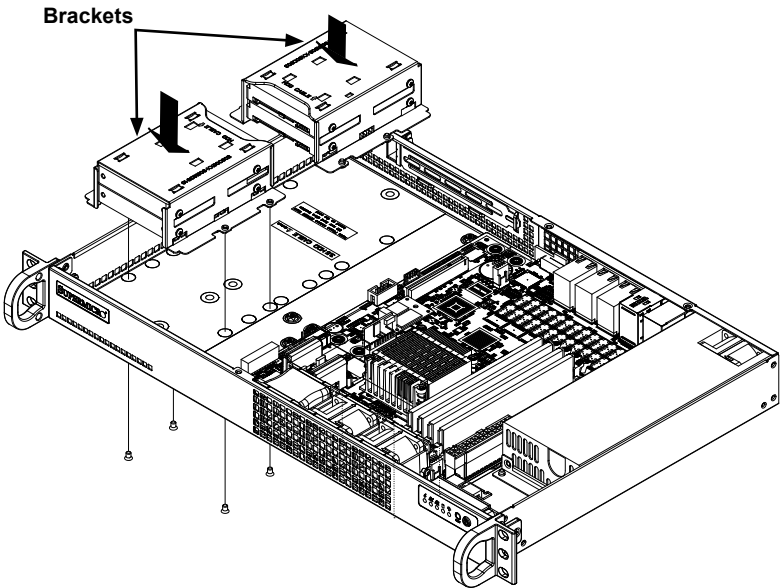

Figure 3-12. Installing 2.5" Drives in the Chassis
- 3. Place the hard drive bracket in the chassis as illustrated in Figure 3-12.